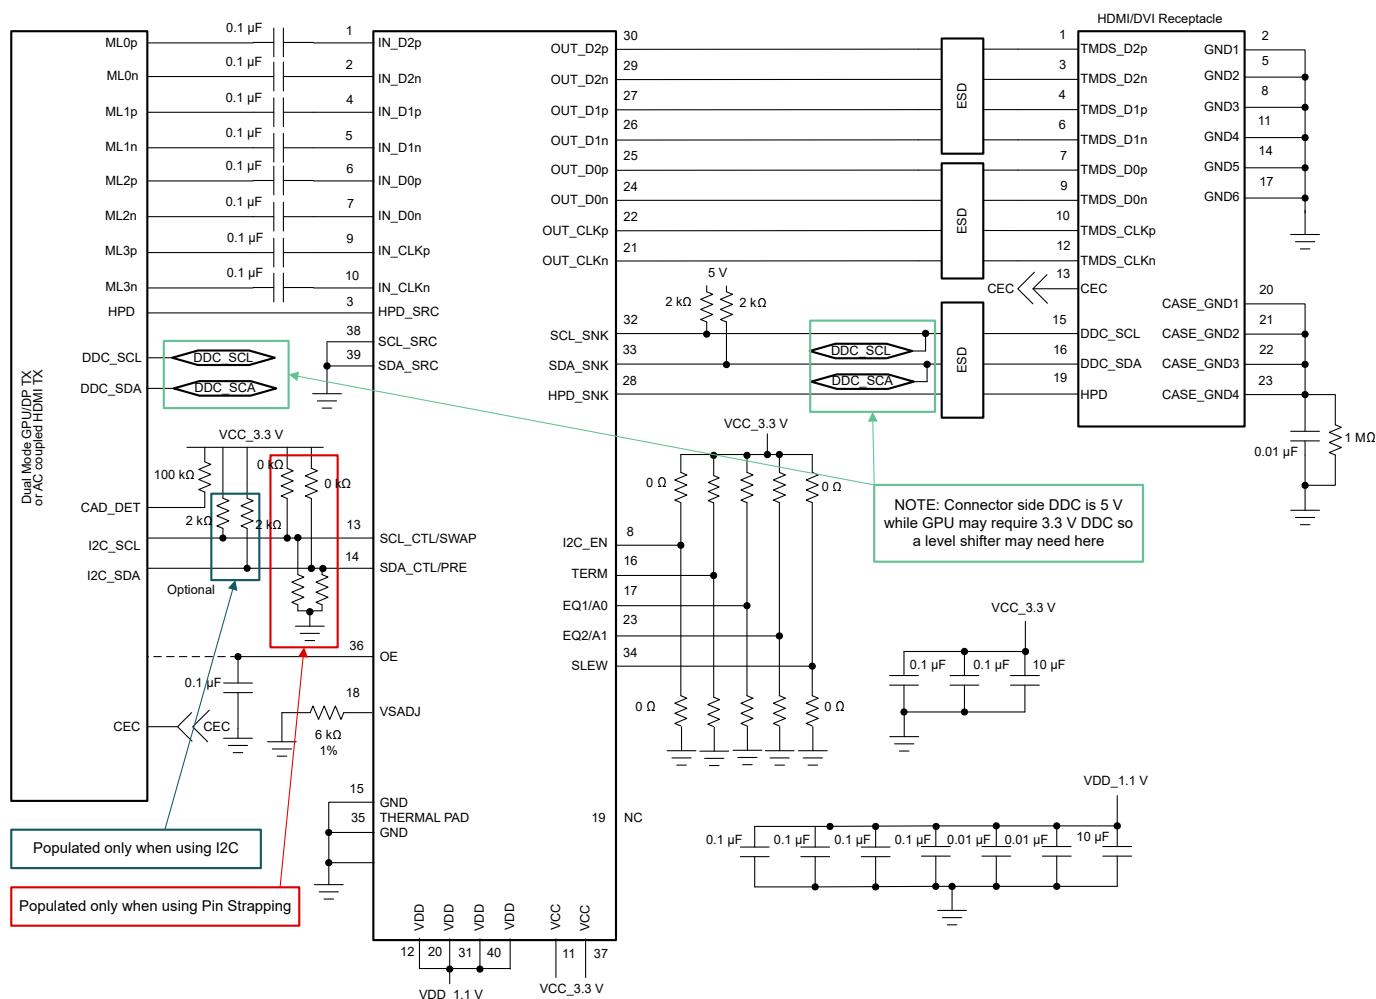

図 8-1. TDP158 in Source Side Application
図 8-1 shows a schematic representation of what is considered a standard implementation.
- Use the typical application 図 8-1 for information on control pin resistors.
- See schematics in 図 8-1 on recommended decouple caps from VCC pins to ground.